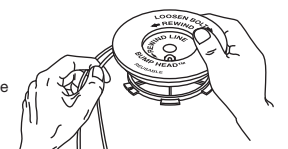

Fig. 30
- Wind the lines in tight even layers, onto the reel (Fig. 30). Wind the line in the direction indicated on the inner reel. Place your index finger between the two lines to stop the lines from overlapping. Do not overlap the ends of the line. Proceed to step 11.